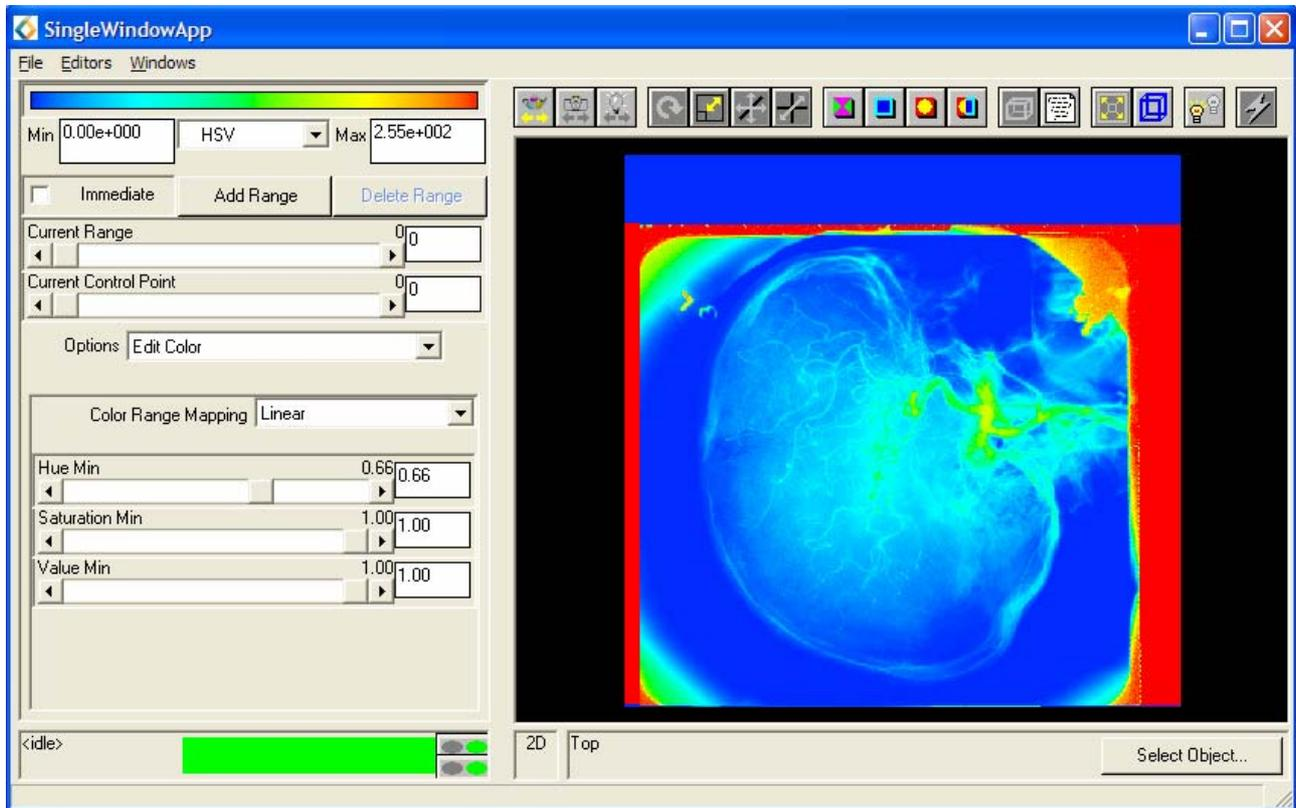

Figure 3.5: Datamap Editor
- Select the **Editors** pull down menu and select **Datamap**. The Datamap editor should appear in the Data Viewer pad as shown in Figure 3.5.